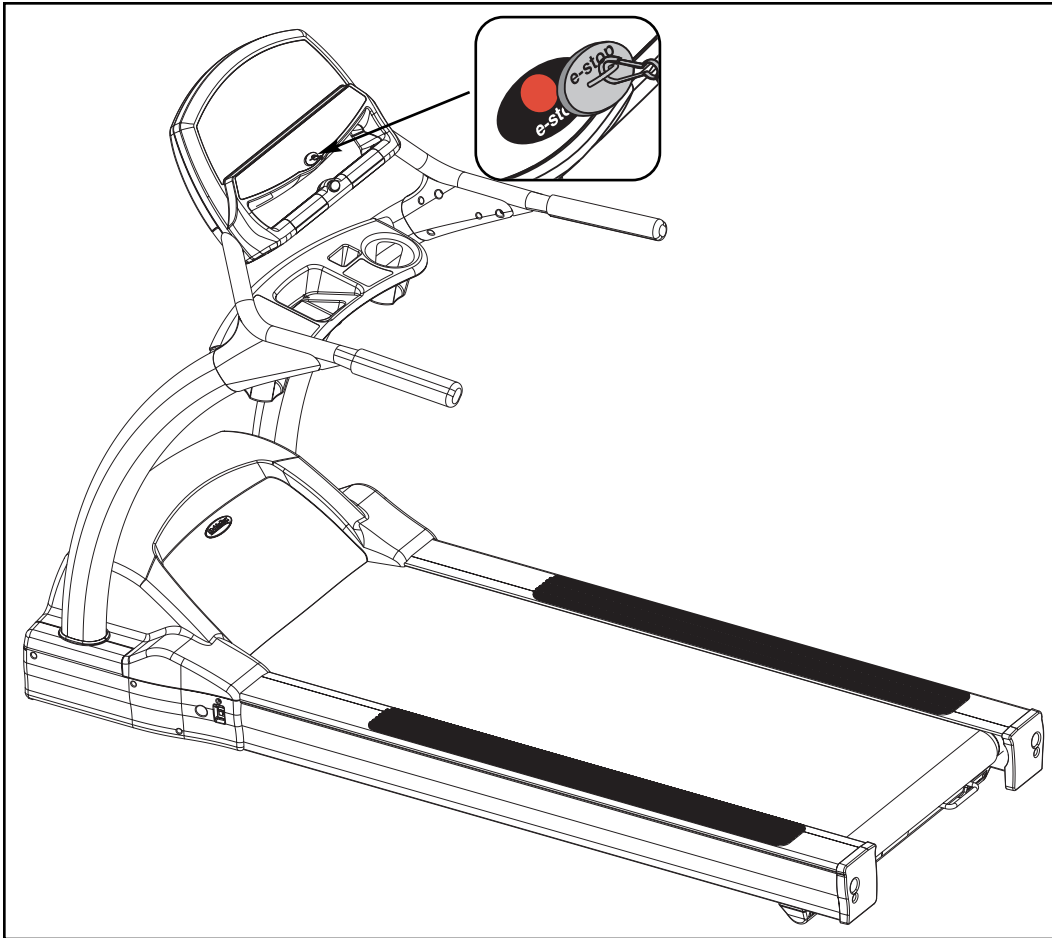

Figure 13
- A.** Confirm that the emergency stop key is in place over the e-stop button. See Figure 13. **NOTE:** The treadmill will not run without the key (or other metal) in place.